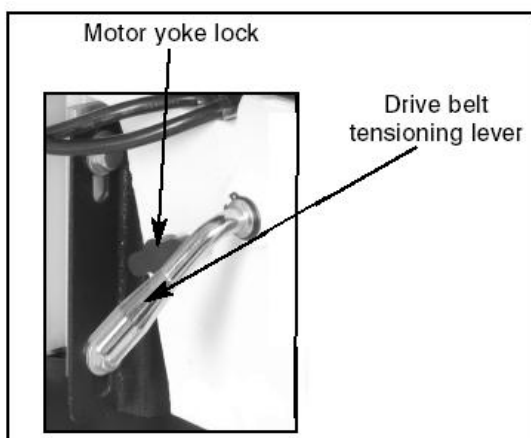

Figure 18
2. The motor should be free to move. Rotate the belt tension lever counterclockwise to take tension off the V-belts as shown in **Figure 18**.